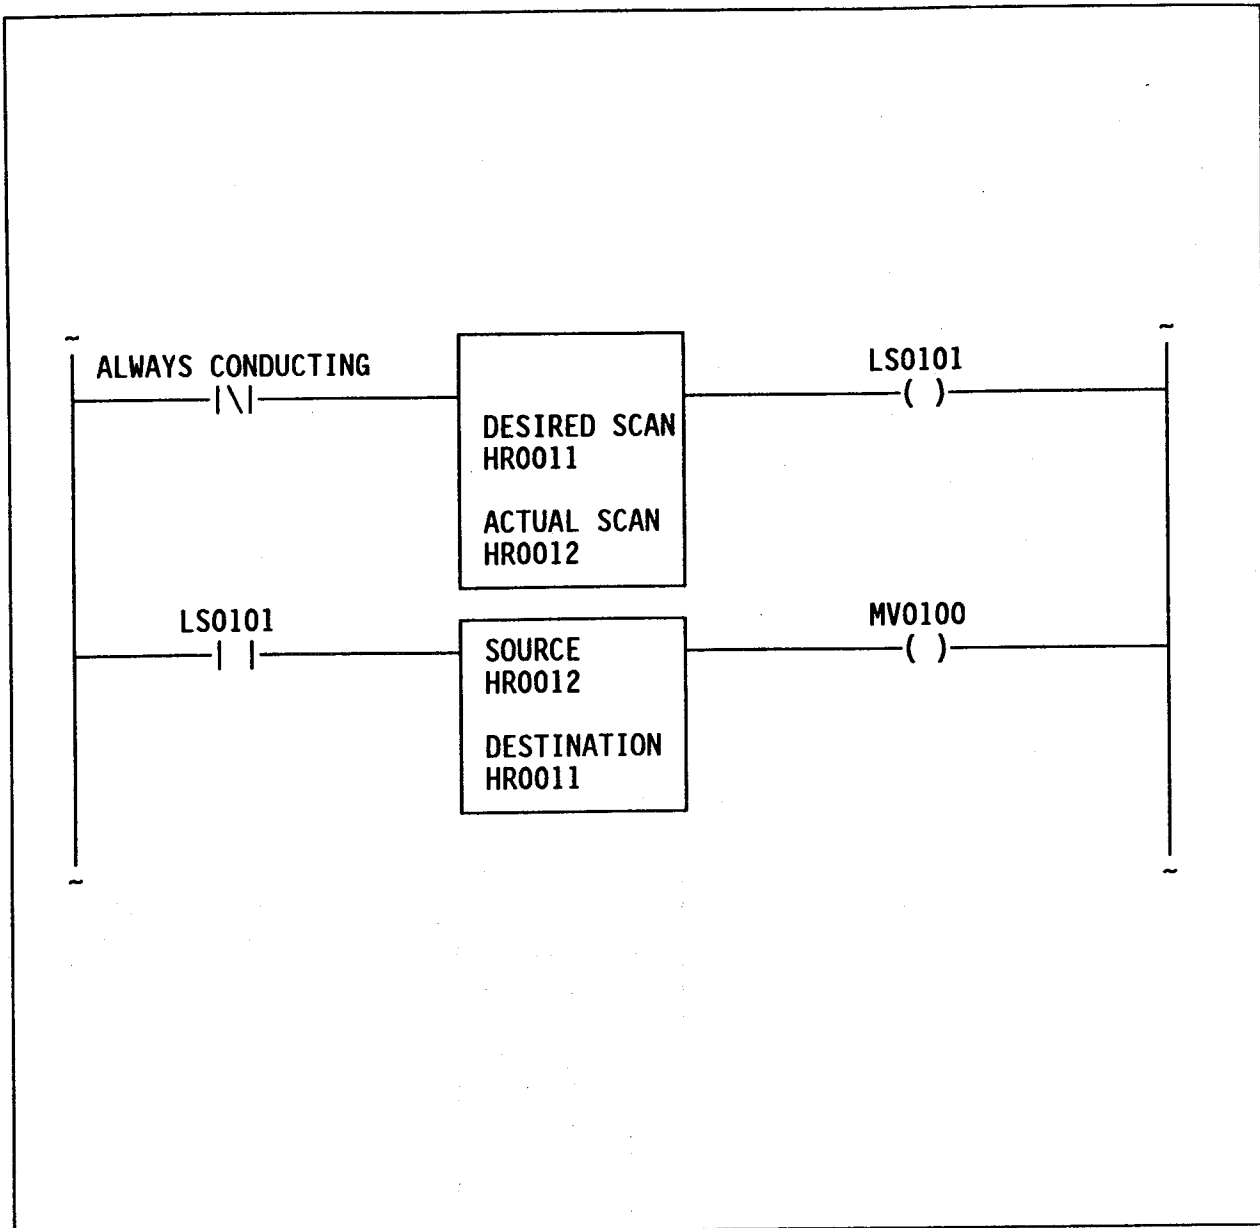

Figure 2. Determining Worst Case Instantaneous Scan Time
The Lock Scan (LS) function can be used, along with the Move (MV) function, to determine the "worst case" instantaneous scan time of a process. Consider the program shown in Figure 2. If appropriate, manually set the desired scan time to any value greater than that which has been "self-calculated" to suit the application. After running through several typical machine cycles, the desired scan time will be set to the worst case scan time.